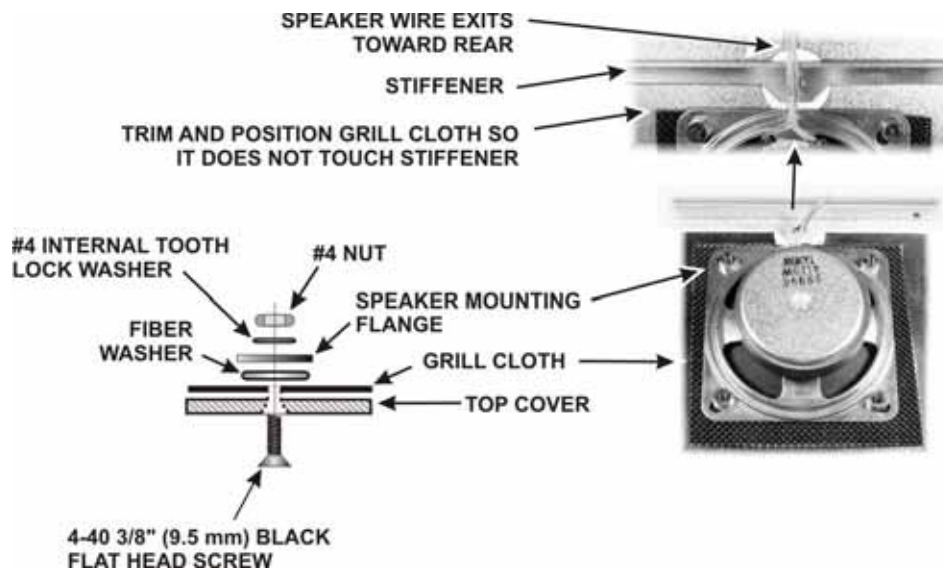

Figure 76. Mounting Loudspeaker.
- Trim the grill cloth to cover the speaker grill openings and overlap the four holes for the loudspeaker mounting screws. Mark and cut four holes in the grill cloth for screws to pass through the cloth. The grill cloth is shown as it must fit after the speaker is mounted in Figure 76. If you install the KPA3 100-watt amplifier, the stiffener will be attached to the chassis and cannot be removed with the cover. In that case, the grill cloth must be trimmed as shown so it cannot become trapped between the chassis stiffener and the top cover.
□ Mount the speaker using the hardware shown in Figure 76. A suggested procedure for doing this is as follows: